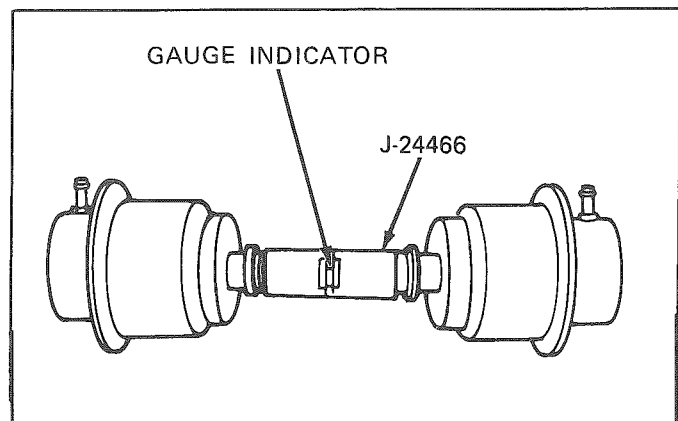

Figure 45 – Checking Modulator
2. Install the modulator in question on the opposite end of the gauge (see figure 45).